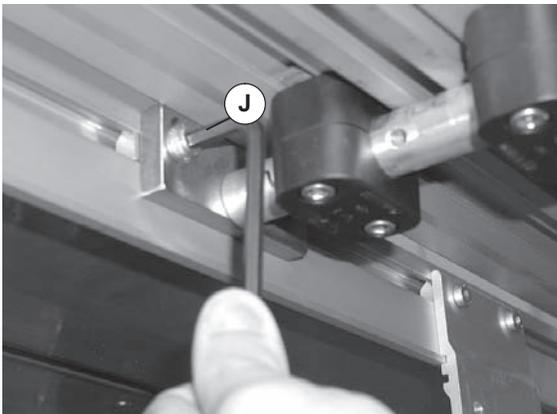

Figure 19
3. Loosen support bar mounting screws (Figure 19, item J).